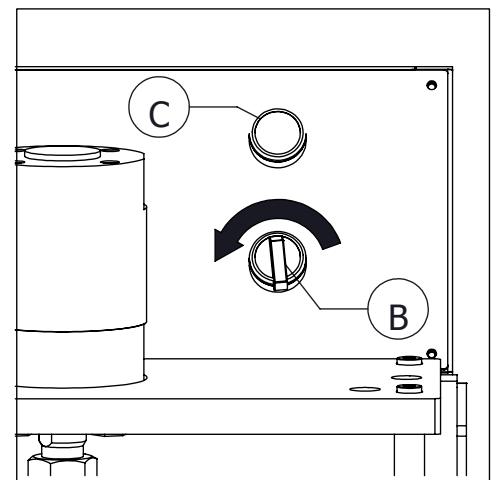

Figure.6
- Turn the 1th and 2nd on/off buttons to the left. (Figure.6)
- Push Time Entering Button (Figure.6-C) during 3 seconds. At the end of the time button's light to be on and off.
- If 1th pressing time is zero your machine does not run. For running of the machine you have to set 1th pressing time. (Figure.6)